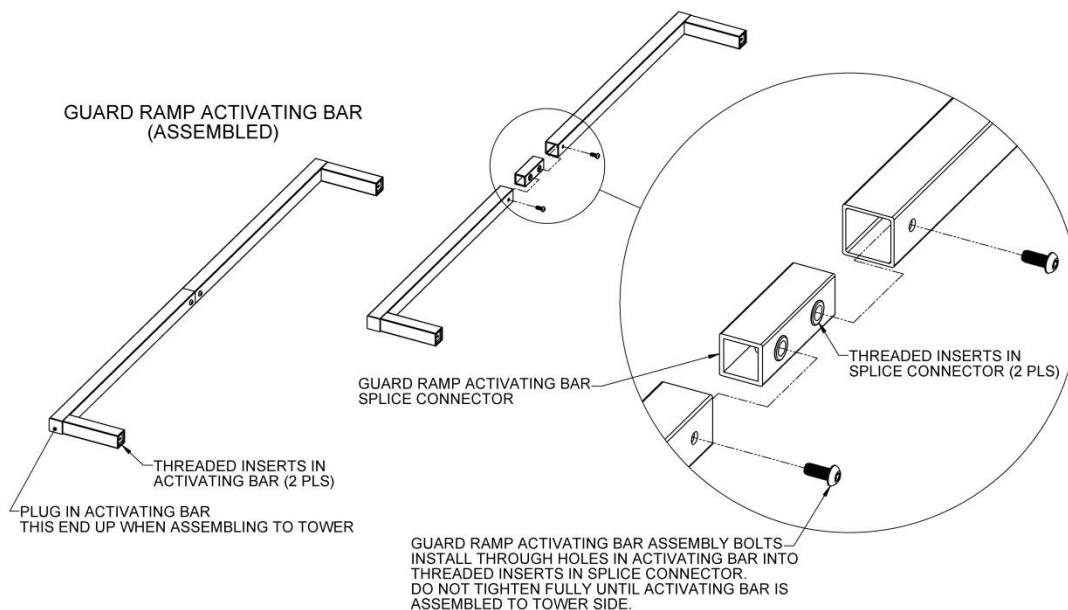

FIG. 4.2
3. The guard ramp activating bar is shipped with the platform. Locate the guard ramp activating bar splice connector and the 5/16"-18 x 1" long assembly bolts in the hardware bag then assemble the guard ramp activating bar as shown in FIG. 4.2. Do not tighten the assembly bolts fully until after the activating bar is attached to the tower.